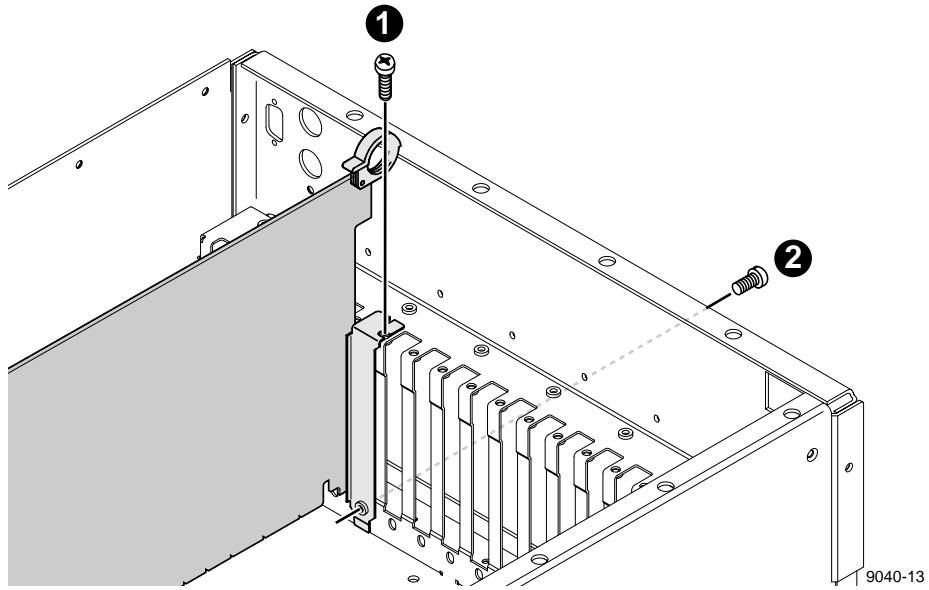

Figure 4. Screw locations for board mounting board bracket
4. Use the Torx tool with the T15 tip to install the mounting screws in the top of the board bracket inside the chassis (❶ in Figure 4) and through the rear panel at the bottom of the board bracket (❷ in Figure 4).
6. Install the board bracket screws. Use the Torx tool with the T15 tip to install the mounting screws in the top of the board bracket inside the chassis (❶ in Figure 4 on page 27) and through the rear panel at the bottom of the board bracket (❷ in Figure 4 on page 27).
2. It may be necessary to remove the top board bracket screw that mounts any *adjacent* circuit boards to allow more give so board removal is easier (refer to Figure 4 on page 27 for the location of the top screw). Use the Torx tool with the T15 tip to do so.
3. Use the Torx tool with the T15 tip to remove the screws from the top of the board bracket inside the chassis (❶ in Figure 4 on page 27) and the screw through bottom of the board bracket through the rear panel outside the chassis (❷ in Figure 4 on page 27).
2. Install the board bracket screws. Use the Torx tool with the T15 tip to install the mounting screws in the top of the board bracket inside the chassis (❶ in Figure 4 on page 27) and through the rear panel at the bottom of the board
bracket (❷ in Figure 4 on page 27).